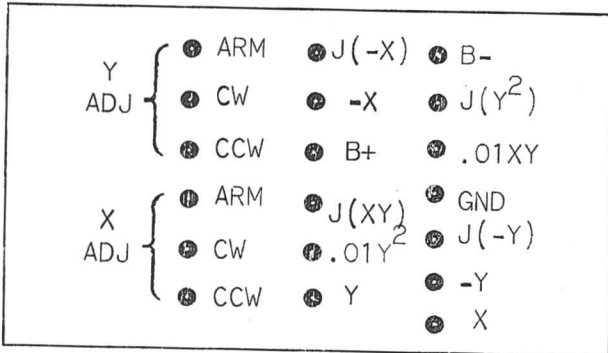

Figure 2 - Terminal Identification on Switch Assembly, Model 3732B
3.3 The Model 3732B switch assembly is mounted to a panel by means of the locknut on the switch. The two gain potentiometers supplied with the instrument are furnished with hardware for panel-mounting. Figure 2 identifies the terminals on the rear circuit wafer of the assembly to which the potentiometers and all signal connections are soldered. Use a low power soldering iron when